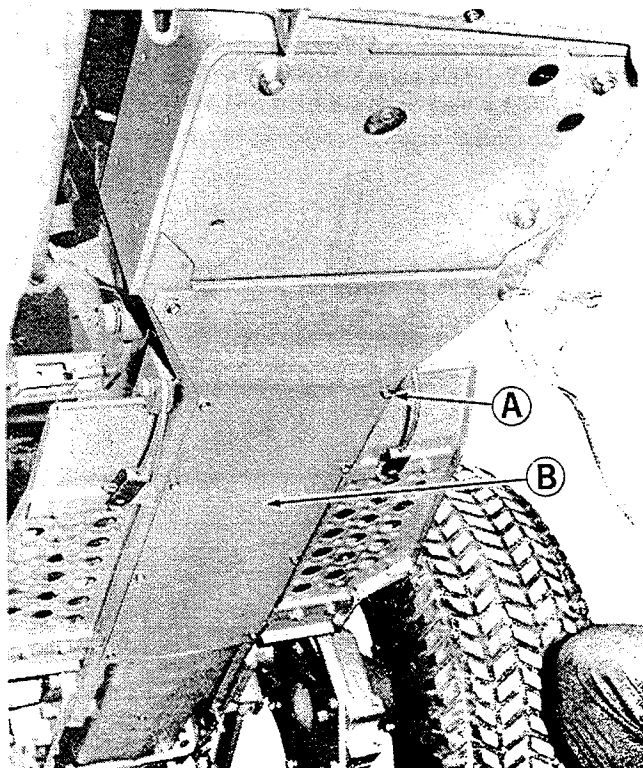

Figure 11. Dust shield on underside of tractor frame.
1. See figure 11. Remove 10 capscrews (A) holding dust shield (B) to underside of tractor frame.
2. See figure 11. It is not necessary to remove the dust shield (B), but the locking nuts on the ends of the turnbuckle are more easily reached from below. Remove the 10 capscrews (A) holding the dust shield to the underside of the tractor frame.
1. See figure 11. Remove the 10 capscrews and dust shield from the underside of the tractor frame.